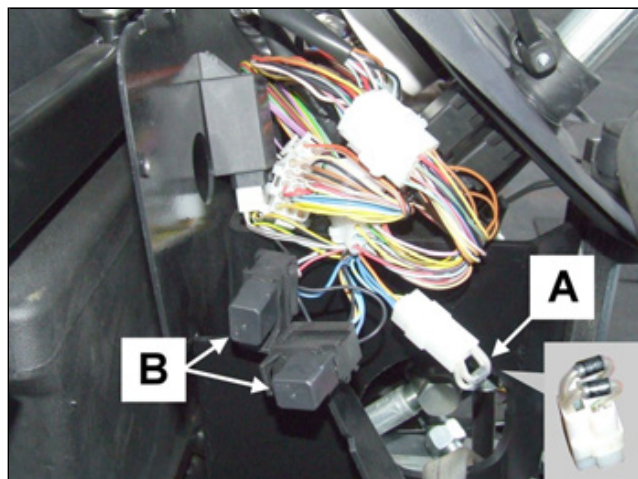

Fig.1
Fig. 1 highlights the connections between the engine and the platform, situated between the steering wheel and the air deflection plate.
- Detail **A**, Diode (serves to prevent current return and operates abnormally the safety systems when starting the machine - start as shown in Fig.1).
The diodes (details **A** in Fig.1) have a main function in the starting of the machine when in safety mode - therefore carefully observe the mounting polarity as indicated.